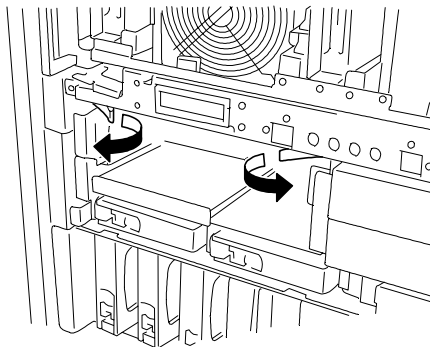

Figure 4-31. Releasing the Memory Board
6. The memory board is secured to the chassis by two fasteners (one on each front corner of the board.) Release each fastener together by slowly pulling them towards you (listen for two clicks) until the memory board moves out of its bay slightly. See Figure 4-31.